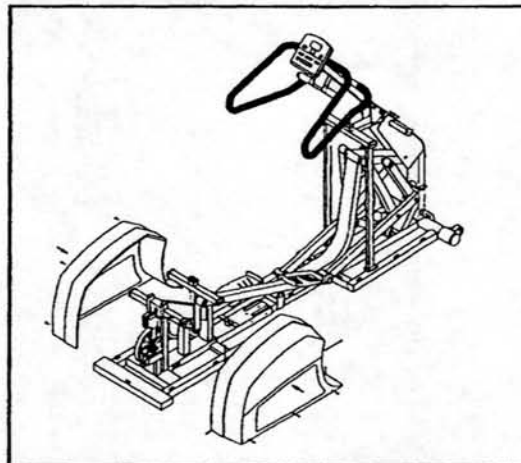

Fig.2-6
1. Replace the MAIN SHROUD and secure with screws (see Fig. 2-6).